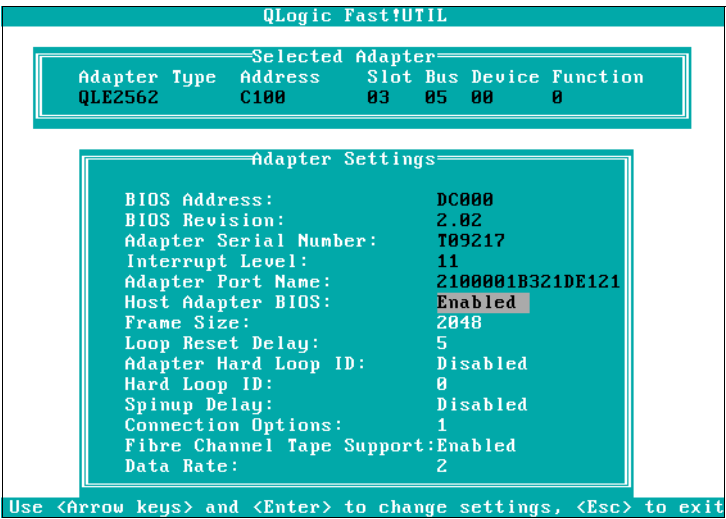

Figure 3-18 Enable BIOS
9. Select **Host Adapter BIOS** and enable it, shown in Figure 3-18.